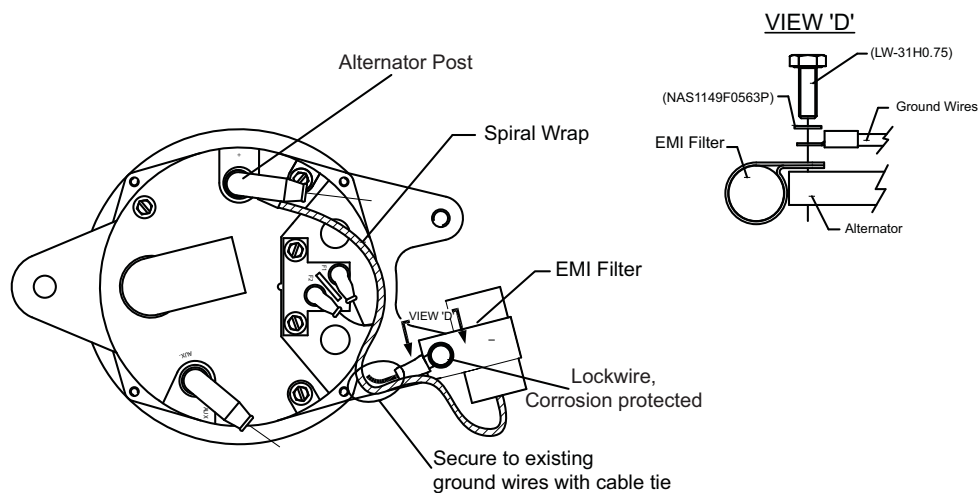

Figure 3
- 10.1.8 Install the LH alternator cable and the EMI filter pigtail wire onto the LH alternator post. See Figure 3.